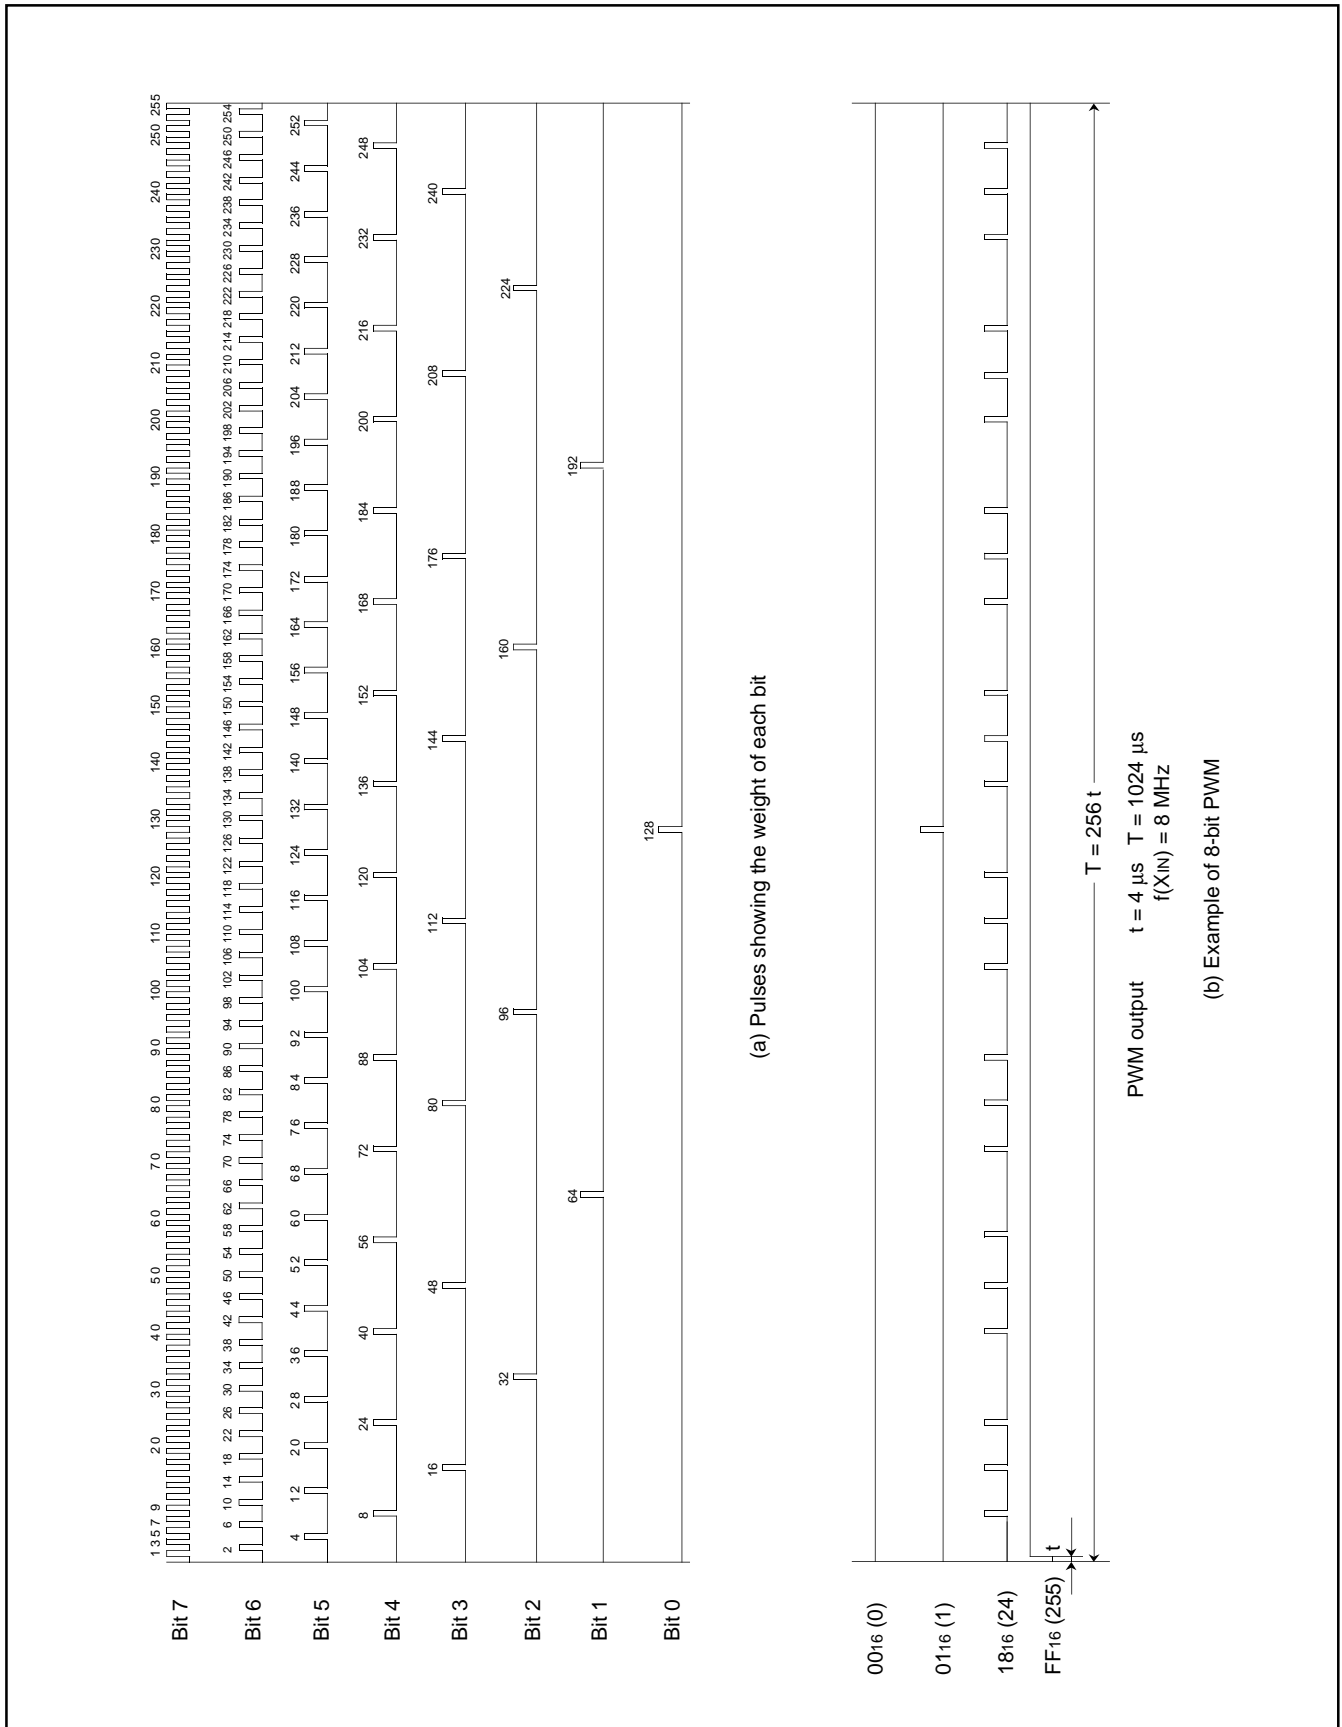

Fig. 8.7.2 PWM Timing
Figure 8.7.2 shows the 8-bit PWM timing. One cycle (T) is composed of 256 (2^8) segments. 8 kinds of pulses, relative to the weight of each bit (bits 0 to 7), are output inside the circuit during 1 cycle. Refer to Figure 8.7.2 (a). The 8-bit PWM outputs a waveform which is the logical sum (OR) of pulses corresponding to the contents of bits 0 to 7 of the 8-bit PWM register. Several examples are shown in Figure 8.7.2 (b). 256 kinds of output (HIGH area: 0/256 to 255/256) are selected by changing the contents of the PWM register. An entirely HIGH selection cannot be output, i.e. 256/256.